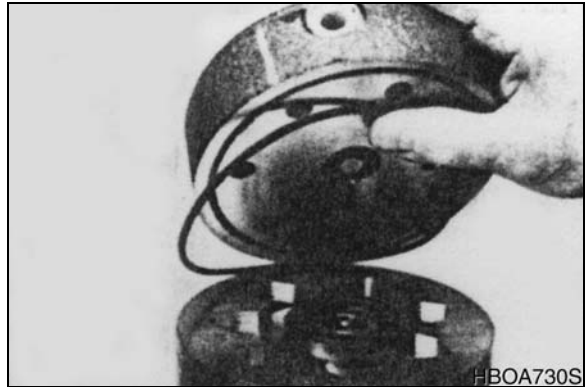

Figure 9
4. Remove end cover assembly (2) and seal ring (4). Discard seal ring. See Figure 9.